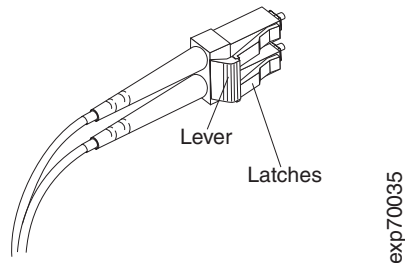

Figure 32. LC-LC fibre channel cable lever and latches
1. On the end of the cable that connects into the LC connector end of the LC-SC cable adapter, press down and hold the lever to release the latches. Figure 32 shows the location of the lever and latches.